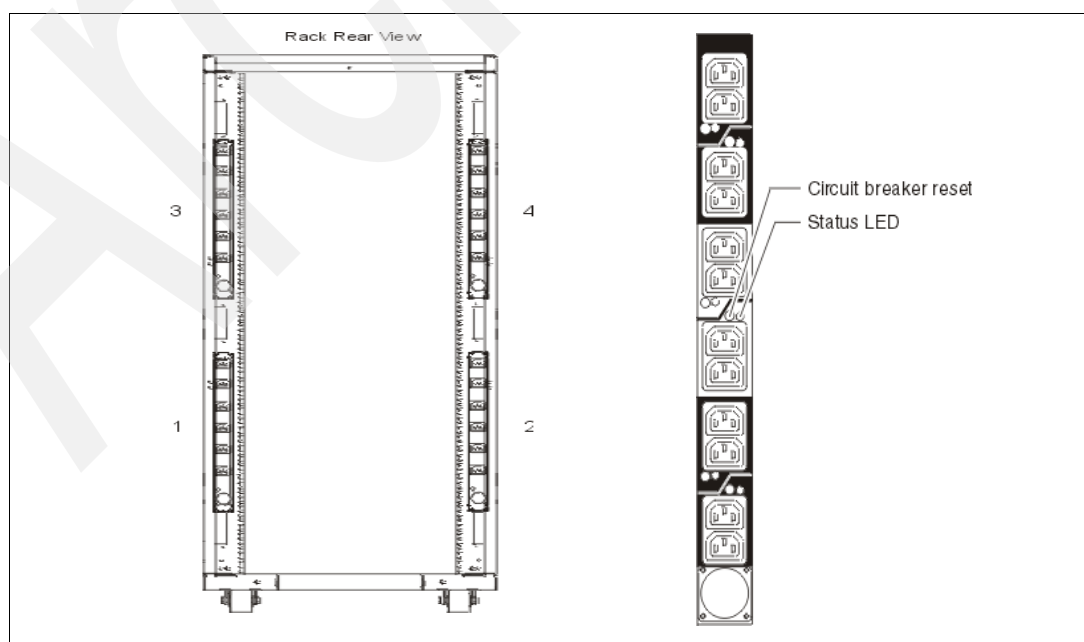

Figure 1-3 PDU placement and PDU view
- ▶ Up to four power distribution units (PDUs) can be mounted in the PDU bays (see Figure 1-3 on page 15), but others can fit inside the rack. See 1.5.6, “The ac power distribution unit and rack content” on page 14.
Four PDUs can be mounted vertically in the T00 and T42 racks. See Figure 1-3 on page 15 for placement of the four vertically mounted PDUs. In the rear of the rack, two additional PDUs can be installed horizontally in the T00 rack and three in the T42 rack. The four vertical mounting locations will be filled first in the T00 and T42 racks. Mounting PDUs horizontally